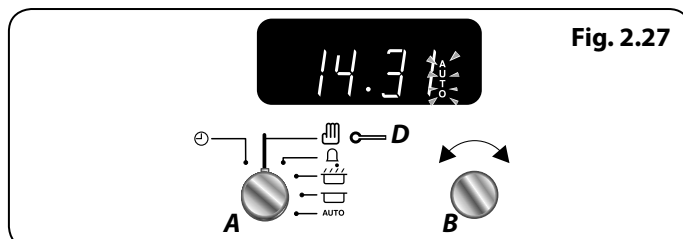

Fig. 2.27
5. Once the specified time has elapsed it will emit an alarm and the Multifunction Oven will stop working. The 'Cooking' symbol on the display will disappear and the word 'AUTO' will flash (**Fig. 2.27**).
6. When you return, turn the **Timer (A)** knob to the **Manual (D)** setting to return to manual cooking and reset the Multifunction Oven modes once cooking is complete (**Fig. 2.27**).